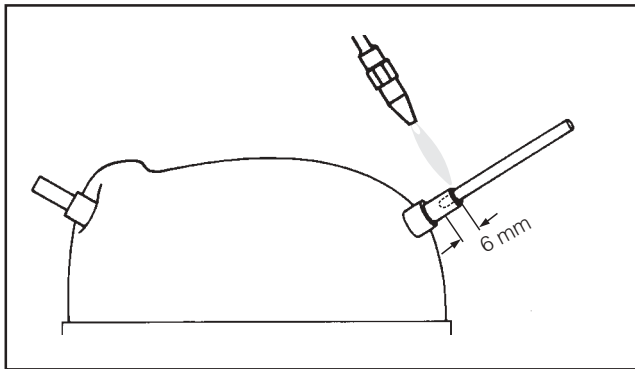

FIG. 11 - SPECIAL CARE IN BRAZING COPPER CONNECTORS
For this purpose, the flame has to be directed away from the compressor and must be more intense at the very end of the female tube (the final 6mm is recommended), as shown in figure 11. The flame-type must be neutral and the filler metal rod should be as described in item 3.2.1. Thus, avoid direct flame over the brazing spot on the compressor housing and carry out connector preheating only on the area close to its tip.